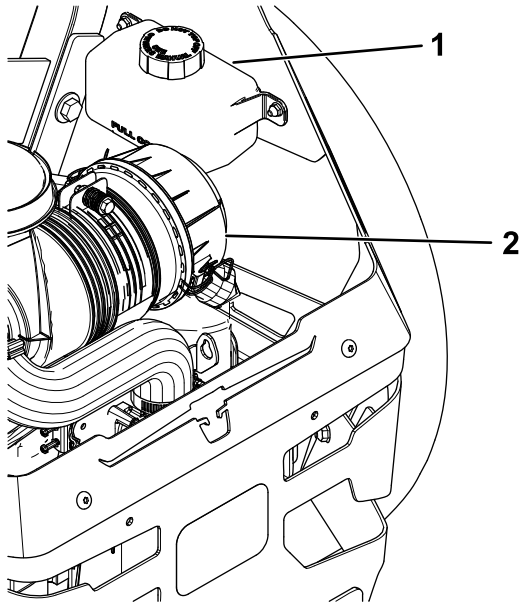

Figure 81
2. Check expansion reservoir and if necessary add Toro® HYPR-OIL™ 500 hydraulic fluid to the FULL COLD line (Figure 81).